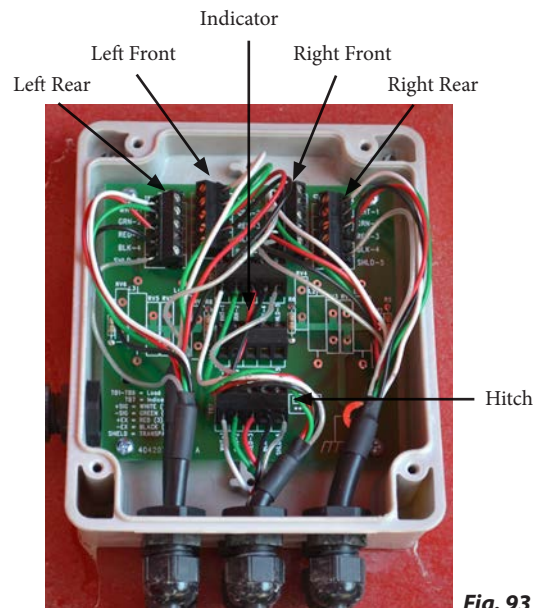

**Fig. 91**
- Route weigh bar wires through the INSIDE of the main frame to the junction box according to Fig. 91.